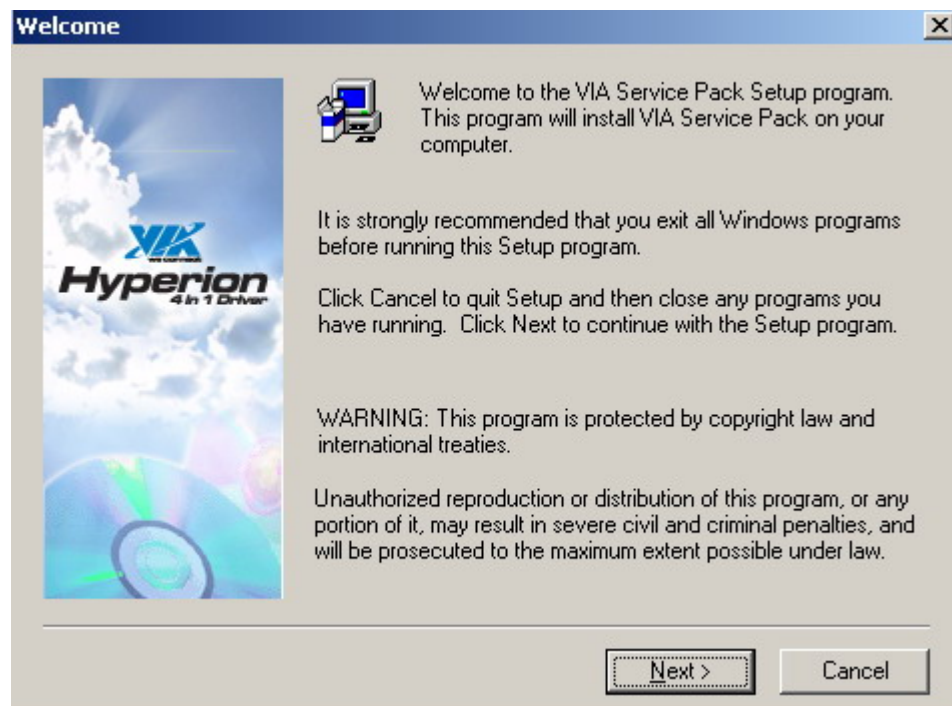

Figure 6-3: VIA Chipset Driver Installation Welcome Screen
Step 4: The installation program begins to initialize. After the initialization process a welcome screen shown in **Figure 6-3** appears. Click **"NEXT"** to continue the installation.